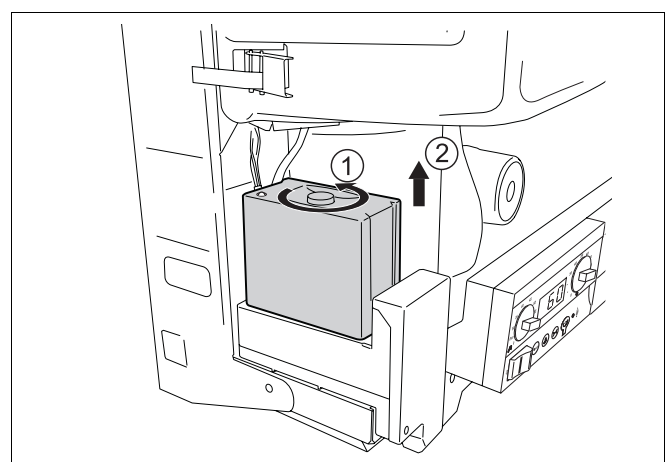
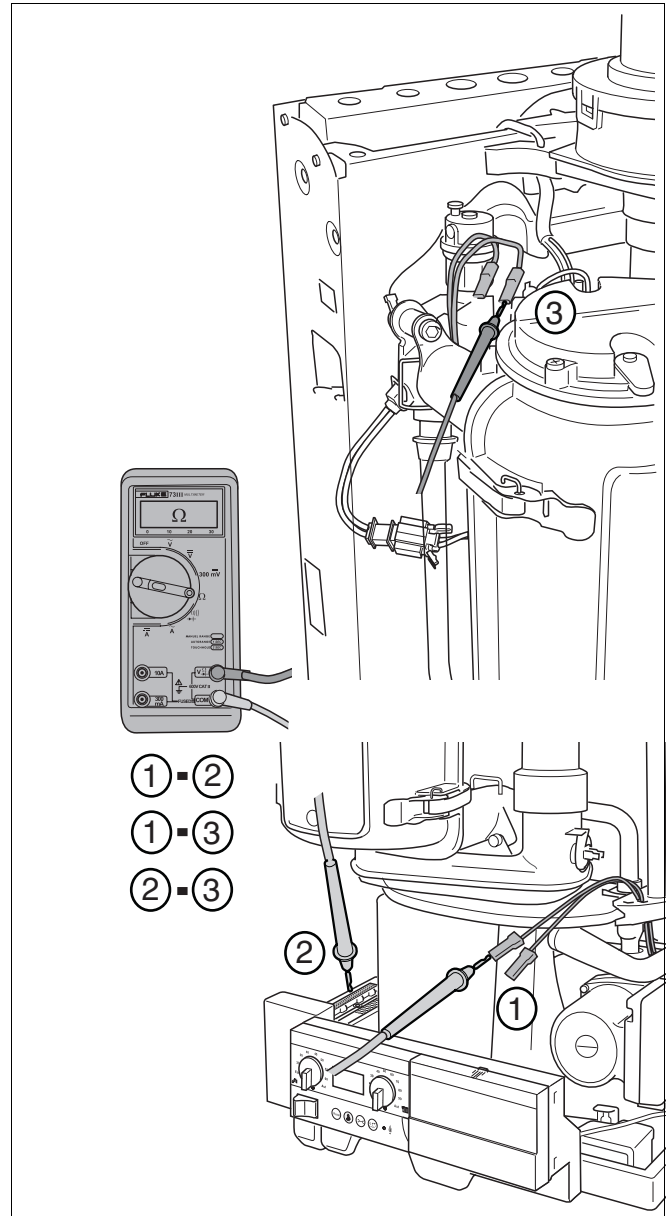

fig. 67 Remove UBA 3
fig. 68 Measure cable resistance
- Remove the UBA 3 (→ fig. 67) to test the cable's resistance (→ fig. 68).